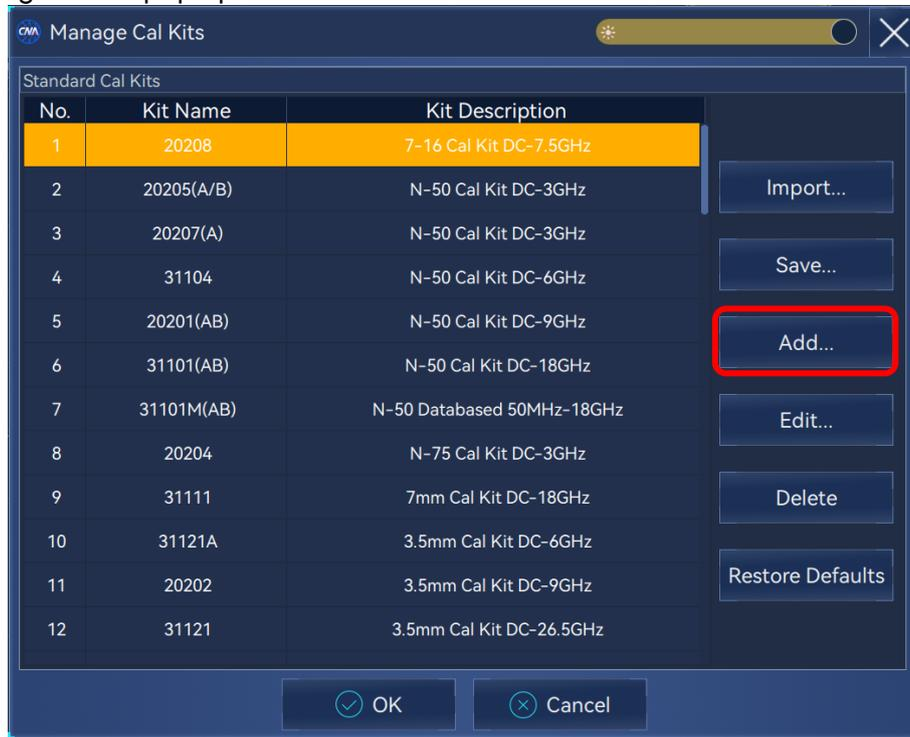
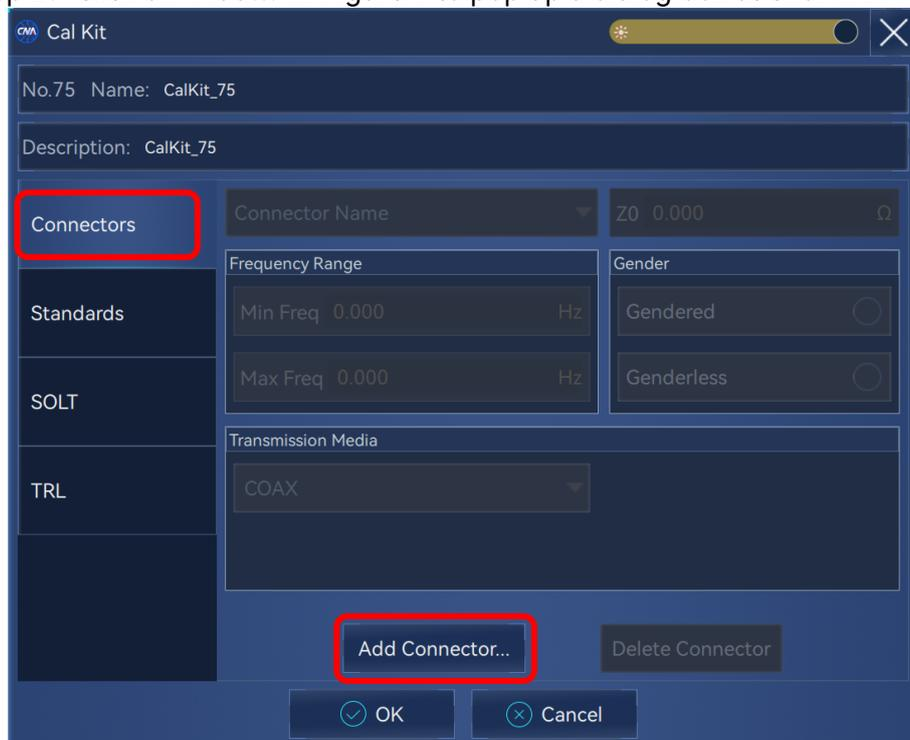
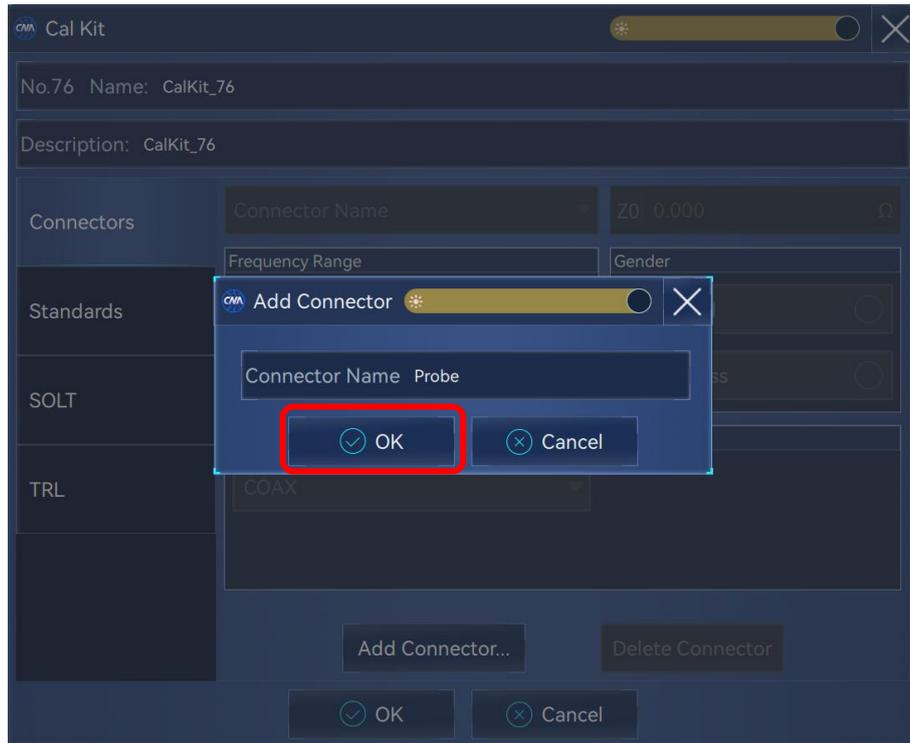

Figure 1
Figure 2 Edit Calibration dialog box
Figure 3 Add Connector dialog box
Step 1: Click “Cal...”->“Manage Cal Kits...”, in sequence, and a dialog box as shown in Figure 1 will pop up.
Step 2: Click on “Add...” in Figure 1 to pop up a dialog box as shown in Figure 2.
Step 3: Click on “Add Connector...” in Figure 1 to pop up a dialog box as shown in Figure 3.
Step 4: Edit the connector name in the pop-up dialog box in Figure 3 and confirm.